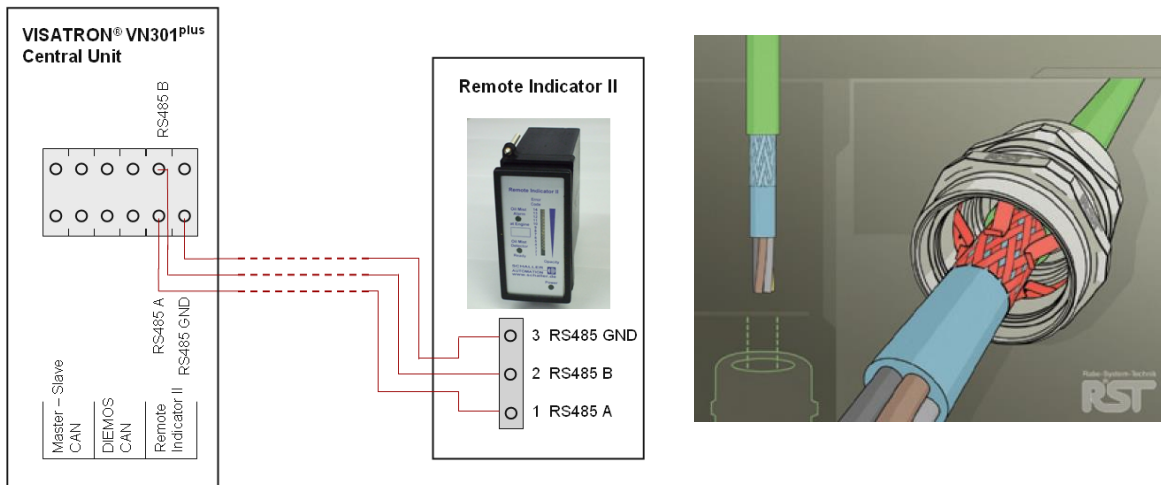

Figure 16: VISATRON® VN301plus /VN301plusEX. Electrical connection of Remote Indicator II with shield and cable gland.
- The shield must be electrically connected with the cable gland (Figure 16)